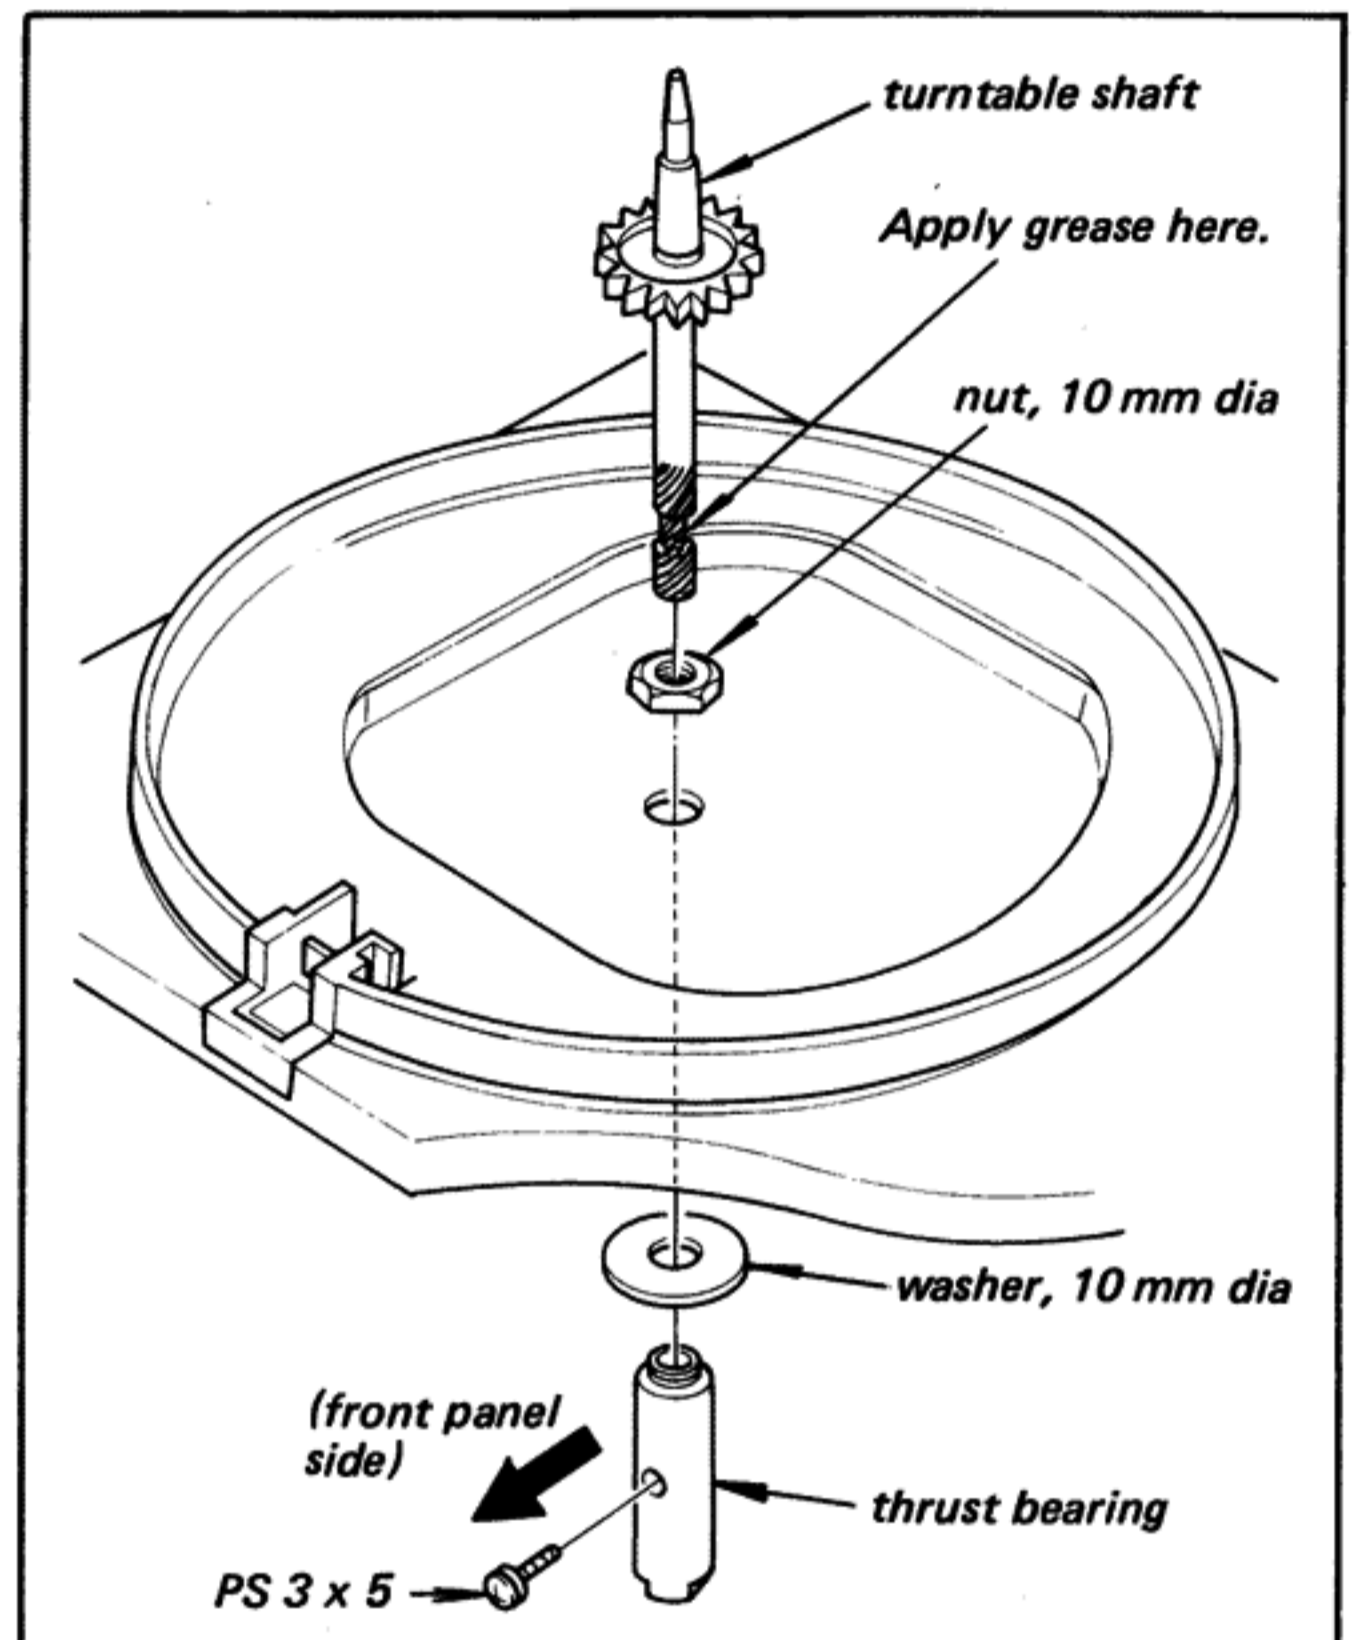

Fig. 2-8. Turntable shaft replacement
2. Remove the screw (PS 3 x 5) from the thrust bearing shown in Fig. 2-8.
4. Apply grease (Part No. 7-662-001-11) on the lower portion of the turntable shaft as shown in Fig. 2-8 and install it.
2. Remove the nut (10 mm dia) and washer (10 mm dia) as shown in Fig. 2-8. This frees the thrust bearing.
- When installing the thrust bearing, the head of the screw (PS 3 x 5) should be in the direction of the front panel as shown in Fig. 2-8.